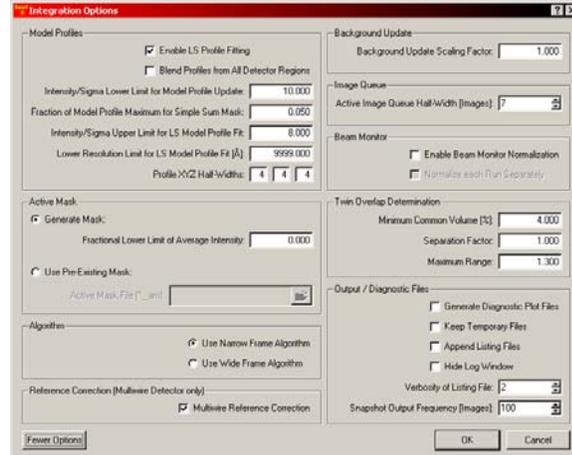
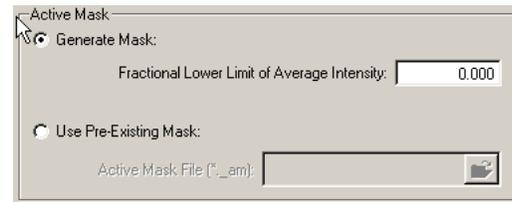
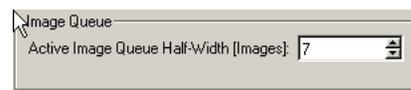

Figure 7.10 – Integration Options window (expanded)
Figure 7.11 – The Active Mask tool
Figure 7.13 – The Image Queue tool
2. Click the **More Options** button. This results in an expanded window (see Figure 7.10) and gives access to several other useful features, in particular Active Mask (see Figure 7.11), Algorithm (see Figure 7.12), and Image Queue (see Figure 7.13).